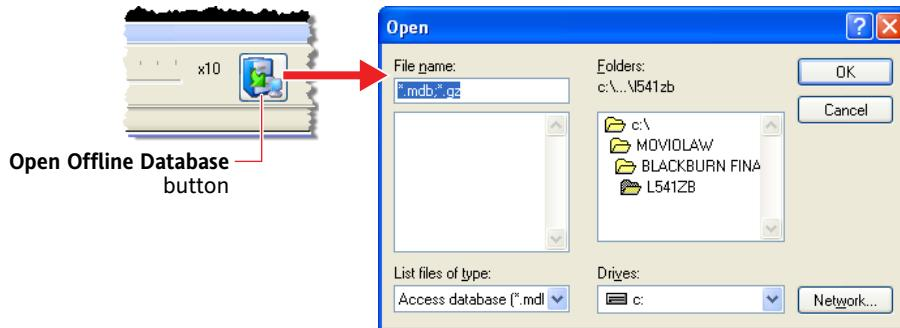

Figure 4.4 Opening an offline database
- c) Click the **Open Offline Database** button (figure 4.4).